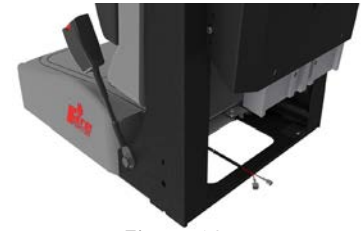

Figure 16
2. Connect red wire to 8-26 VDC power supply. Use a 1/4" (6.35mm) female connector on vehicle harness. See Figure 16.